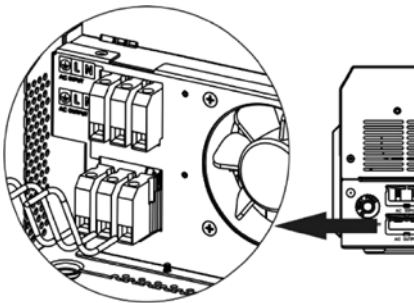
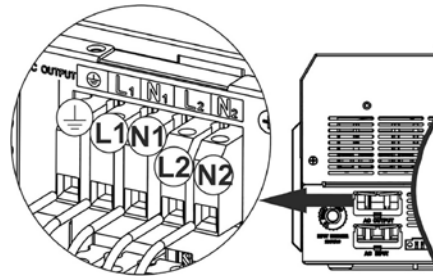

Figure 4.9 - 3.6 kW AC output wires
Figure 4.10 - 6 kW Twin AC output wires
4. Then, insert AC output wires according to polarities indicated on terminal block (Figure 4.9 and Figure 4.10) and tighten terminal screws. Be sure to connect PE protective conductor  first.